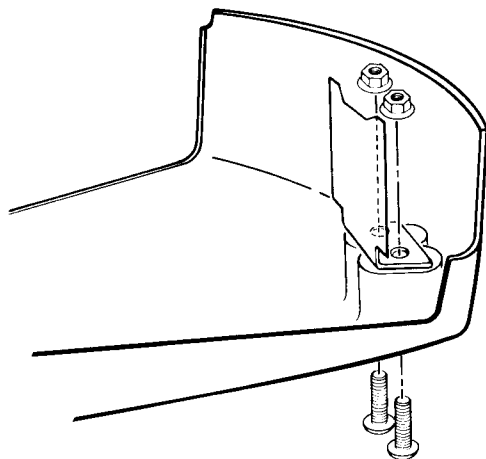

Figure 8-9A
3. Reinstall knife. Tighten fasteners securely. (Figure 8-9A)